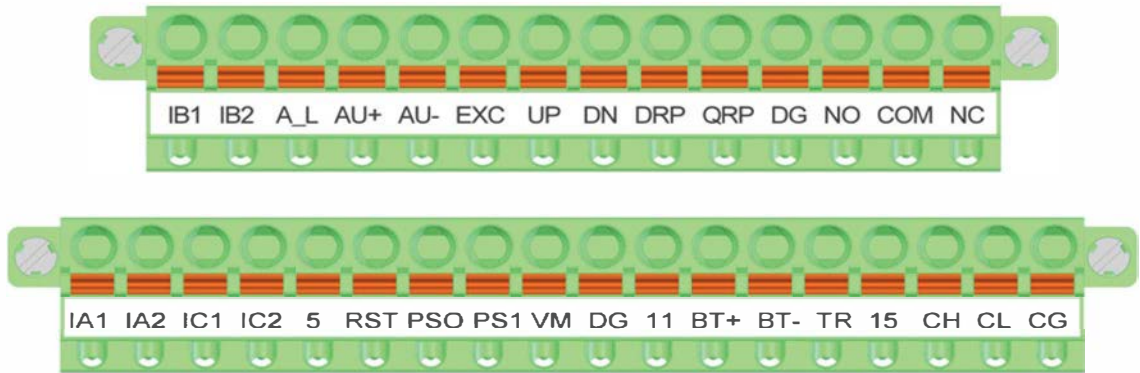
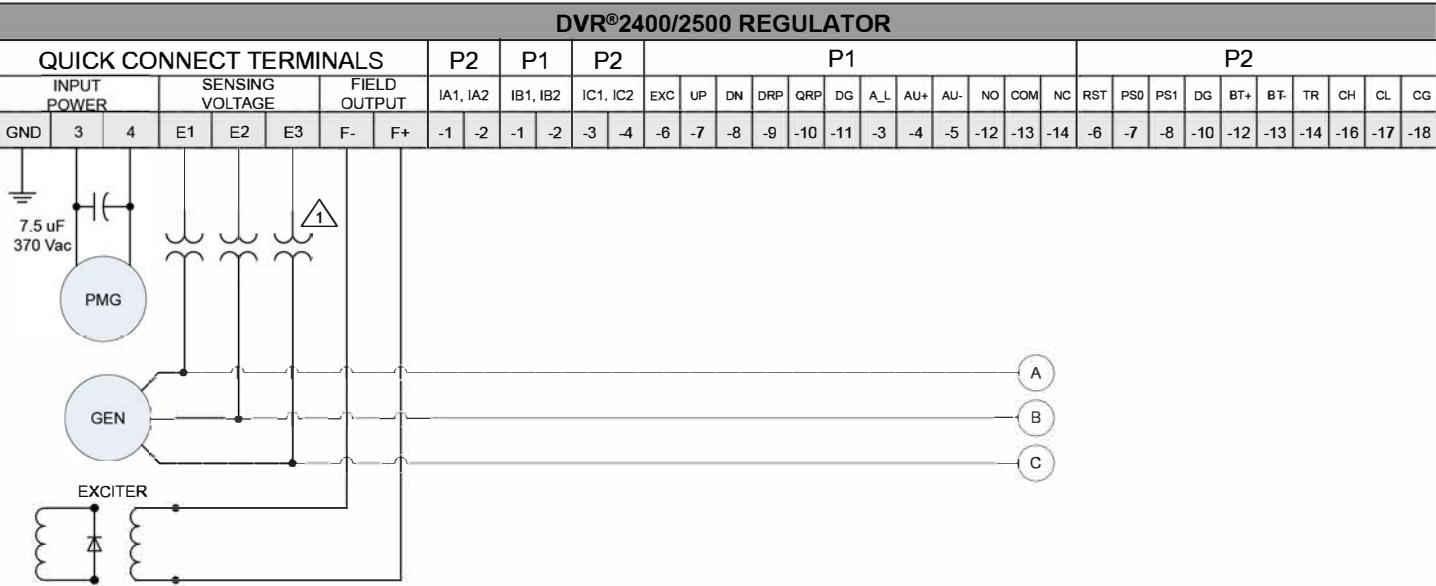
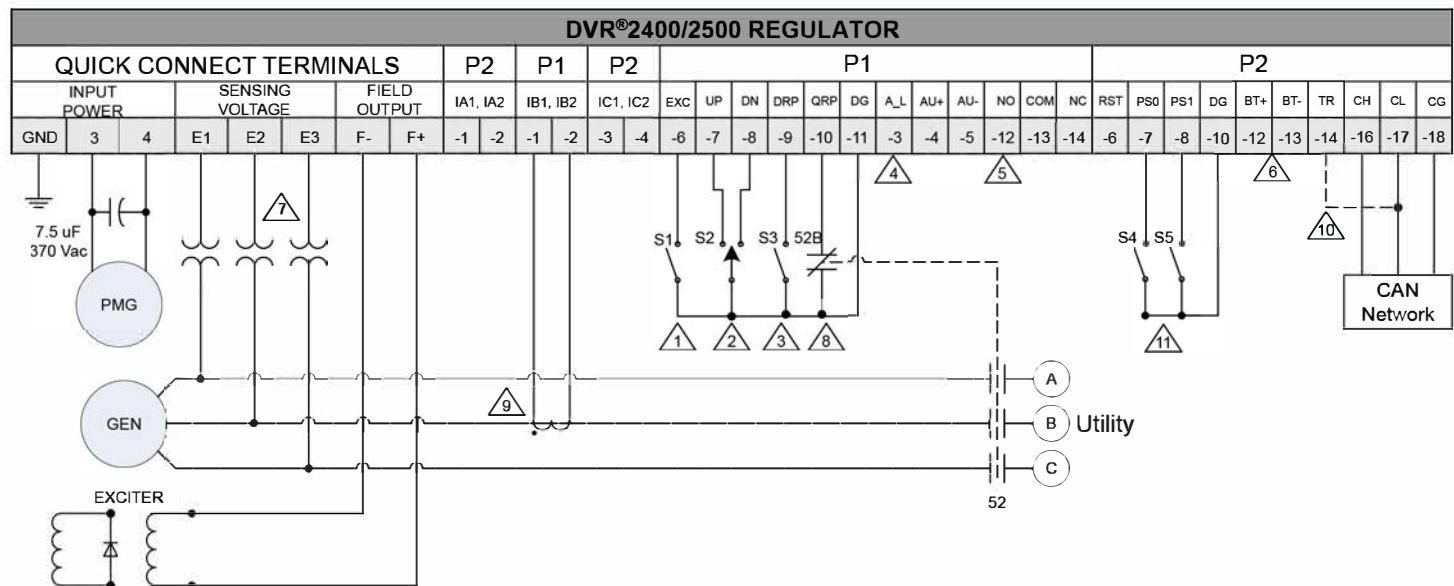

Figure 5-5. System Connectors P1 (top) and P2 (bottom) Terminal Position
Figure 5-6. Typical Connections with ABC Rotation, Three-Phase Voltage Sensing Without Current Sensing
Figure 5-7. Typical Connections with ABC Rotation, Three-Phase Voltage Sensing and Single-Phase Current Sensing
Generator line current is stepped down through a user-supplied CT on Phase B. Secondary current (5A) from that transformer is applied to P1 connector terminals labeled IB1 and IB2. Consult current transformer instruction manuals for CT polarity identification and install per Figure 5-7. See Figure 5-5 and Table 5-2 for terminal assignments.
Generator line current is stepped down through user-supplied CT's. Secondary current (5A) from these transformers are applied to the P1 connector terminals labeled IB1 and IB2 and P2 connector terminals labeled IA1, IA2 and IC1, IC2. Consult CT instruction manuals for polarity identification and install per Figure 5-6. See Figure 5-5 and Table 5-2 for terminal assignments.
Figures 5-6 through 5-10 illustrate typical applications using the DVR® regulator.
- Figure 5-6 shows an application where the regulator is connected for three-phase voltage sensing without current sensing.
- Figure 5-7 shows an application where the regulator is connected for three-phase voltage sensing and single-phase current sensing.